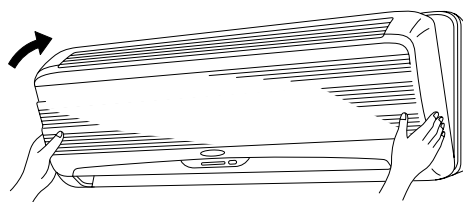

Fig. 15a
- (1) Close the flaps.
- (2) Reinstall the grille into the lower part while aligning its tabs on the upper part. (Fig. 15a) Insert the tabs in the slots and push the lower part of the grille back into position.